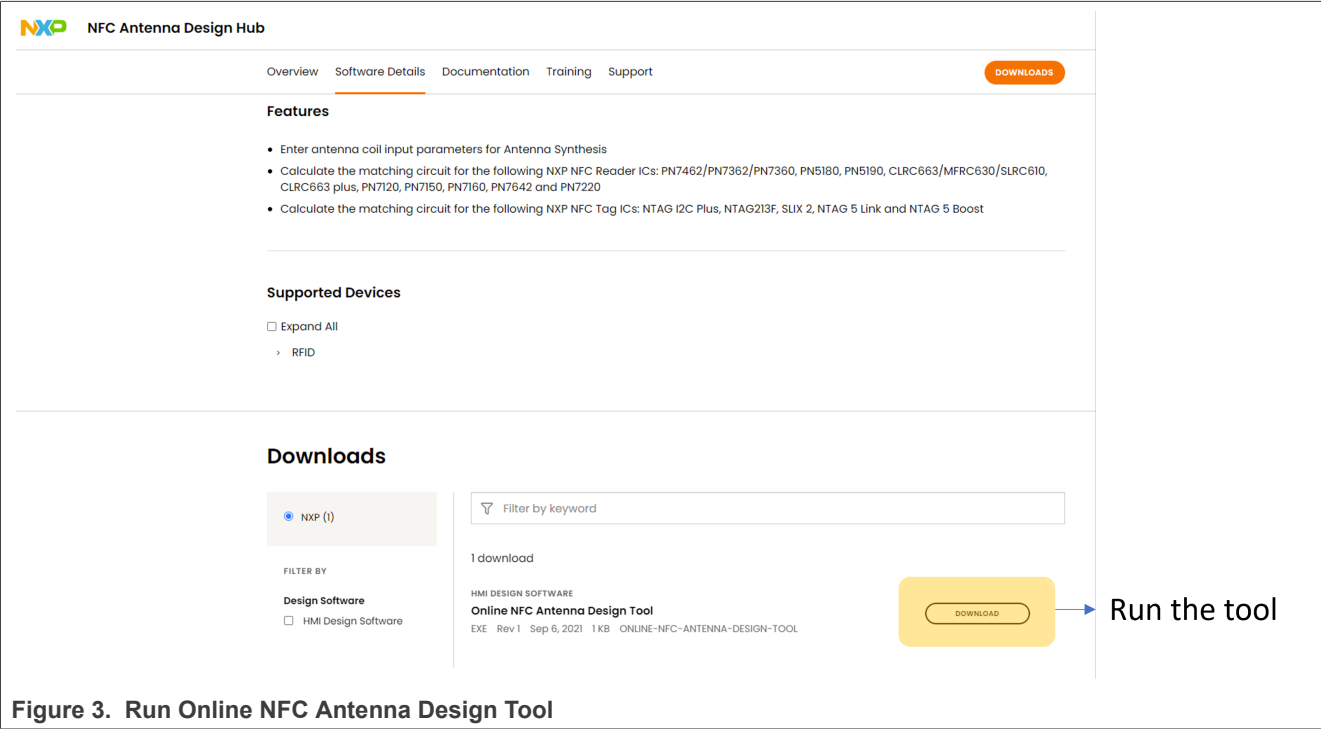

Figure 3. Run Online NFC Antenna Design Tool
- Click **DOWNLOAD** icon to run the tool (Figure 3).